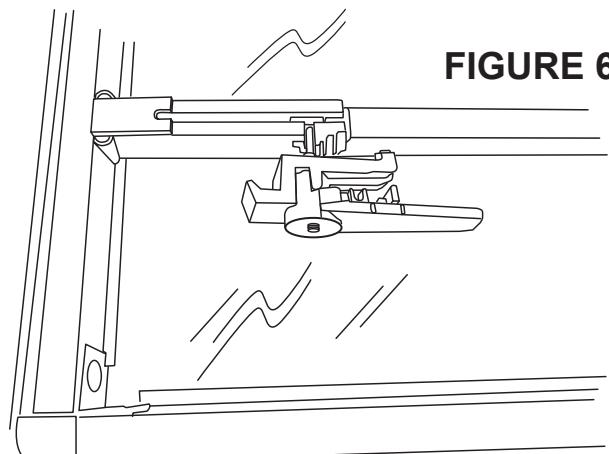

FIGURE 6
4. Align the clamp assembly bolt (shaft of the handle) with the retention feature and rotate handle assembly flat onto the panel and press firmly to secure. See Figure 6.
6. Align the clamp assembly bolt (shaft of the handle) with the retention feature and rotate handle assembly flat onto the panel and press firmly to secure. See Figure 6.